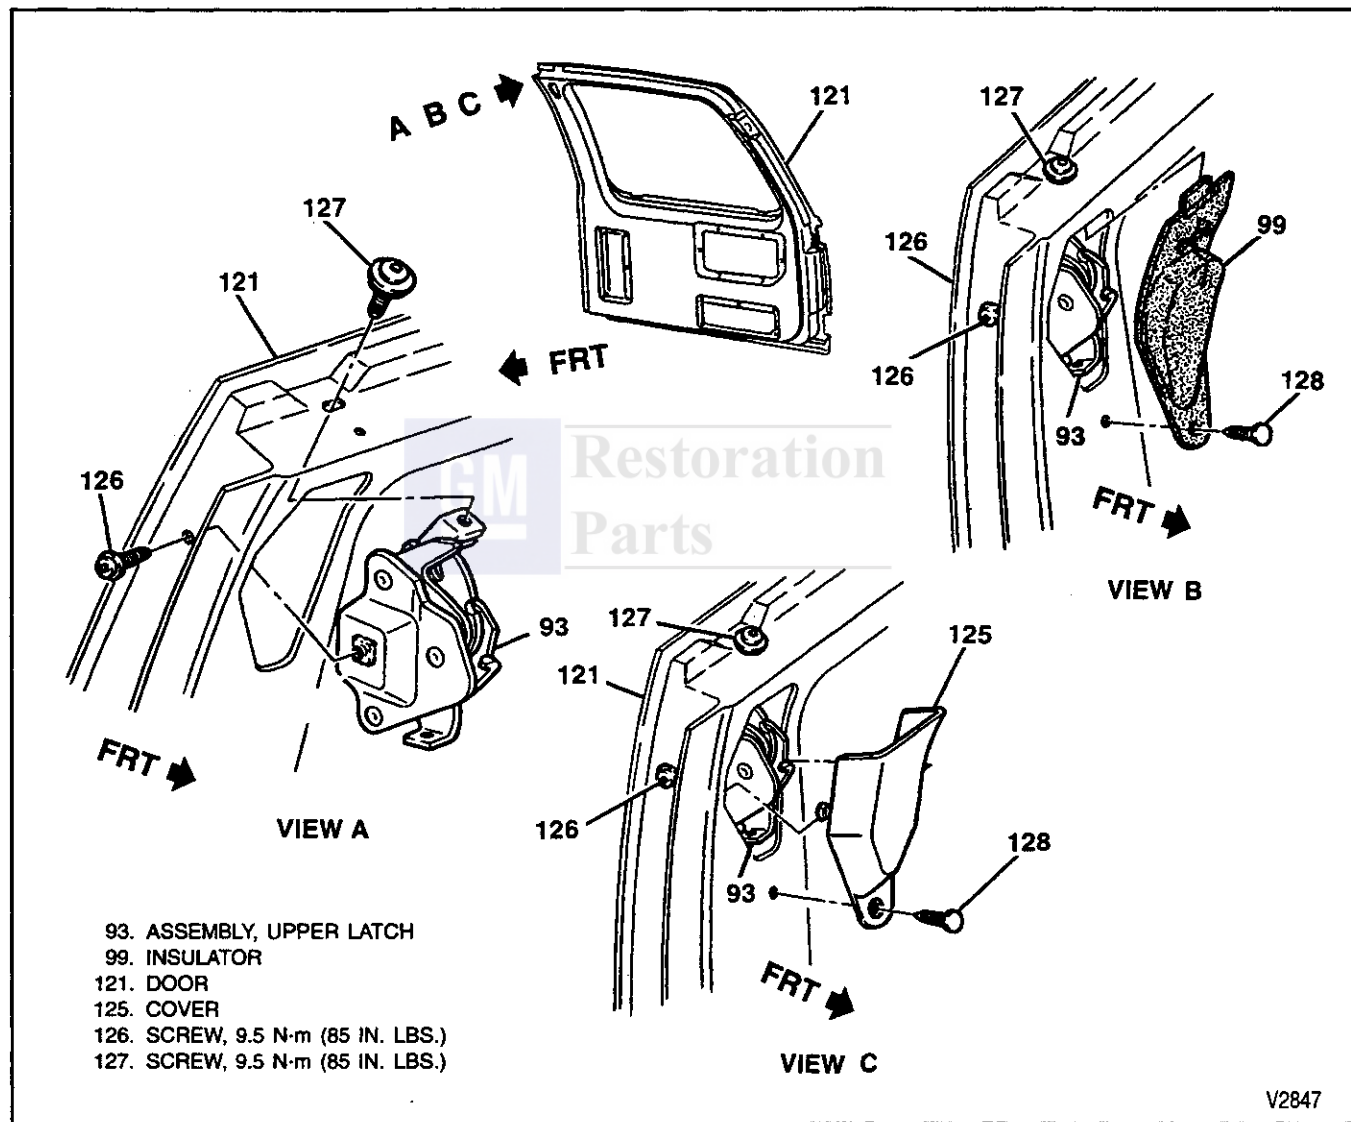

Figure 34—Cargo Upper Latch Assembly
**Remove or Disconnect (Figures 34 through 37)**
**Install or Connect (Figures 34 through 37)**